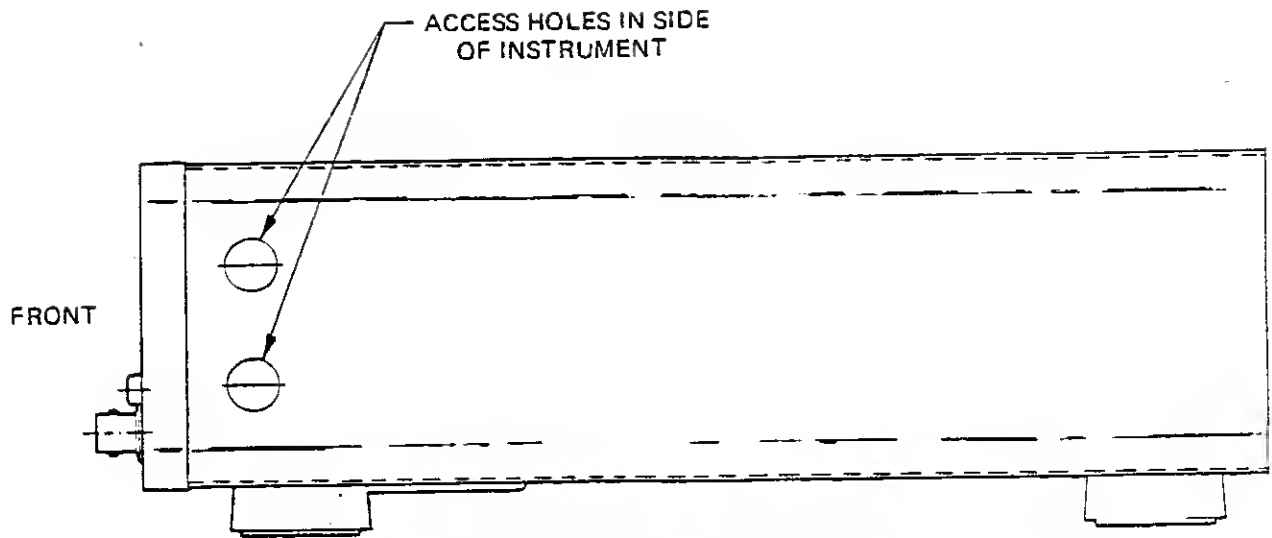

**Figure 6.1 - Rear-Panel Bezel Removal**
- b. Remove the two screws and washers securing the rear-panel bezel shown in Figure 6.1. Then remove the bezel